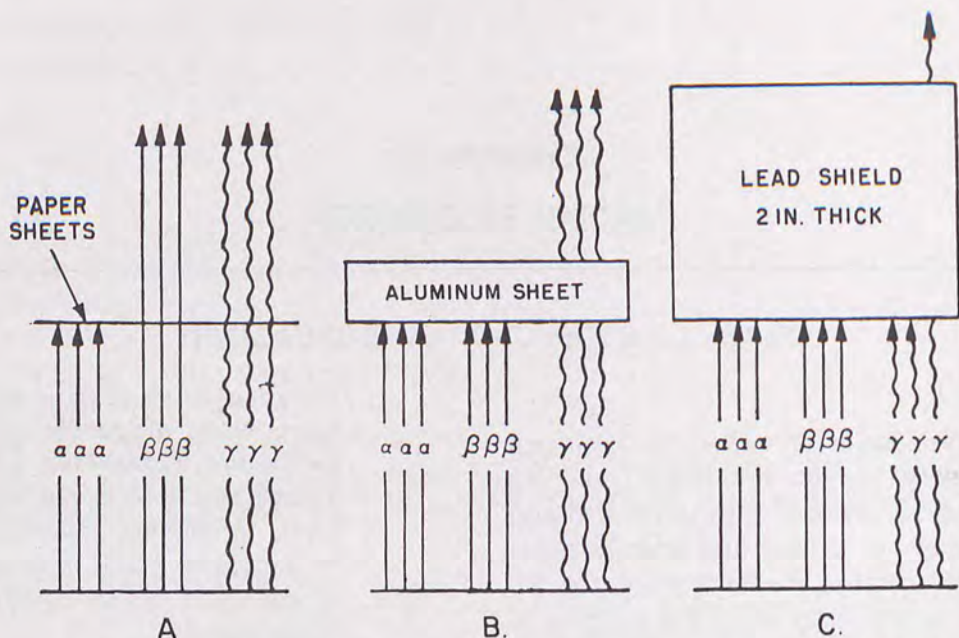

Figure 93. Penetration powers of alpha, beta and gamma radiations.
(1) *Alpha particles.* Alpha particles are helium nuclei (helium nuclei with a double positive charge), traveling at high speeds (up to 7 percent of the speed of light). These particles are positively charged and are relatively heavy; they have very strong ionizing power (power to dissociate stable molecules into electrically charged parts or ions) and poor penetrating power; they can be stopped by a sheet of paper (A, fig. 93).
(2) *Beta particles.* Beta particles are electrons moving at high speed. Therefore, the charge of the beta particle is negative; it travels at speeds up to 95 percent of the speed of light. Though beta particles have strong ionizing power, it is only approximately 1/100 that of the alpha particle. The penetrating power of these particles is stronger; a sheet of aluminum of a few millimeters in thickness is required to stop them (B, fig. 93).
waves, light, or X-rays, but they have a much higher frequency of operation. *Gamma rays are not particles and carry no charge.* They are considered photons or bundles of electromagnetic energy. Compared to alpha and beta particles, gamma rays have a mild ionization power (about 1/10,000 that of the alpha particle) but have intense penetrating power; in fact, the rays can be detected after passing through 2 inches of lead (C, fig. 93).